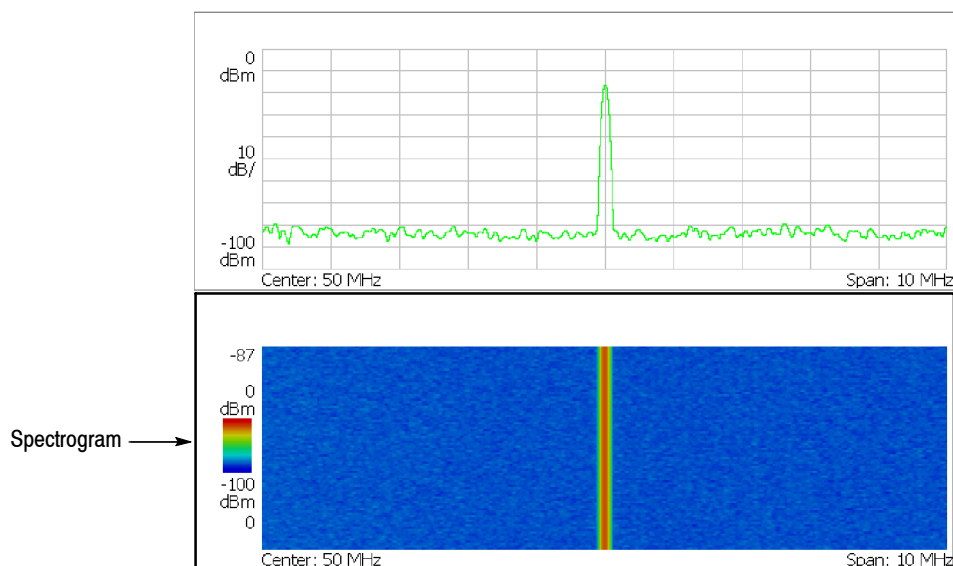

Figure 4-4: Spectrogram display
- a. Press **S/A > S/A with Spectrogram**. Check that the spectrogram is displayed on the lower side of the screen (see Figure 4-4).